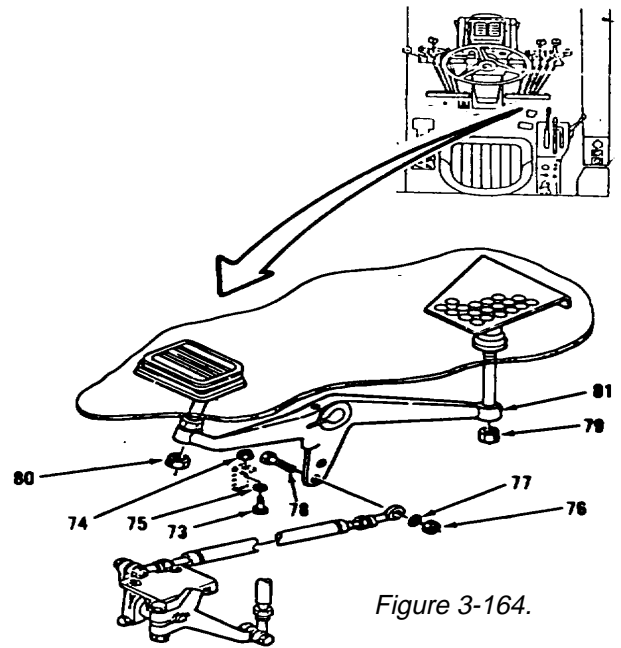
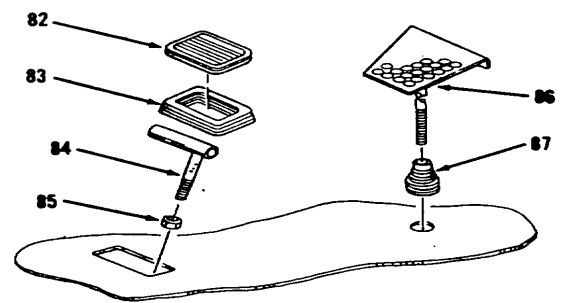
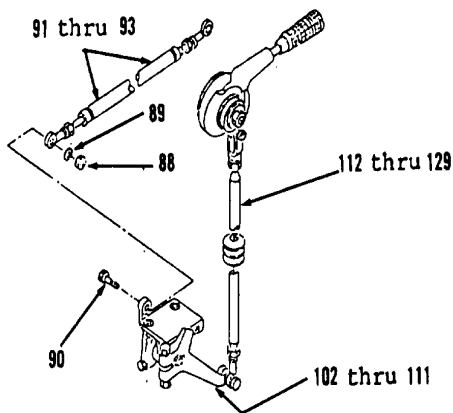

Figure 3-164.
Figure 3-165.
Figure 3-166.
- 58. Remove bolt (73), nut (74) and washer (75, Figure 3-164).
- 59. Remove nut (76), washer (77) and bolt (78).
- 61. Remove lever (81).
- 62. Remove pad (82) and boot (83, Figure 3-165) from right side of floor in operator's compartment.
- 63. Remove treadle (84) and nut (85).
- 64. Remove treadle (86) and boot (87).
- 65. Remove nut (88), washer (89), bolt (90) and items 91 thru 93 as an assembly from items 112 thru 129 as an assembly (Figure 3-166).